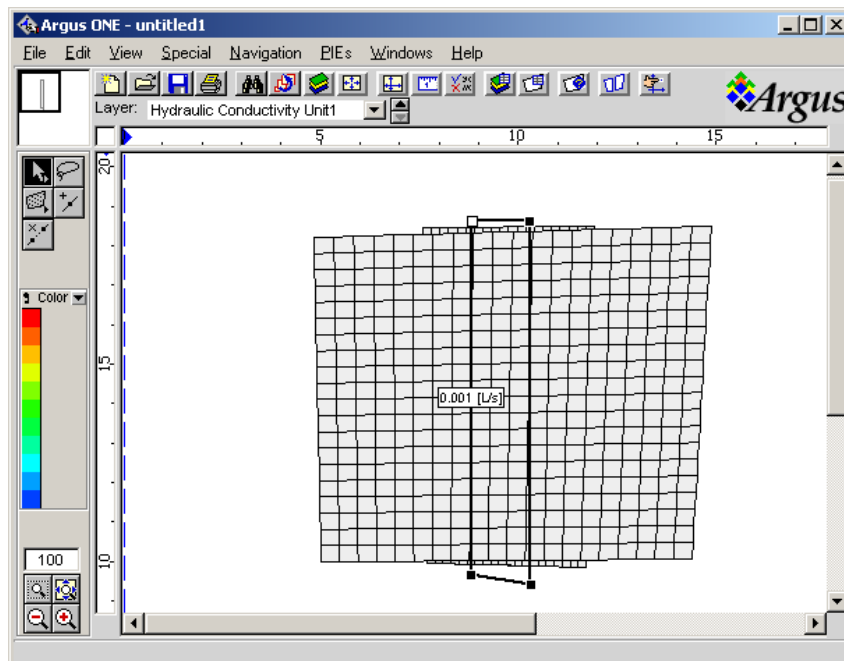

Figure 31. Specified hydraulic heads in nonaligned, three-dimensional example.
8. Draw a closed contour on **Hydraulic Conductivity Unit1** layer similar to that shown in figure 31. It should encompass several columns of cells from the northern to the southern ends of the model but should not reach all the way to the east and west edges of the model. Use the default values for all parameters in the model, so simply click *OK* to exit the *Contour Information* dialog box that appears when the contour is closed.